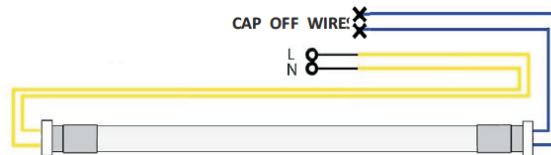

Figure 3
**STEP 5:** Connect Live/Hot (L) from the power source into one-end of the lampholder and connect the Neutral (N) from the power source into the other end of the lampholder as shown in Figure 3.